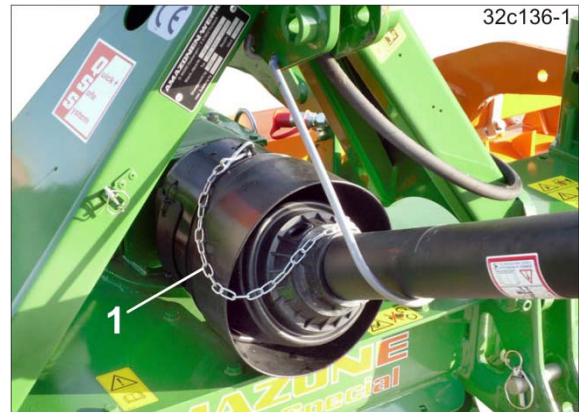

Fig. 98
11. Secure the universal joint shaft guard on the tractor and on the implement using supporting chains (Fig. 98/1) so that they do not rotate.